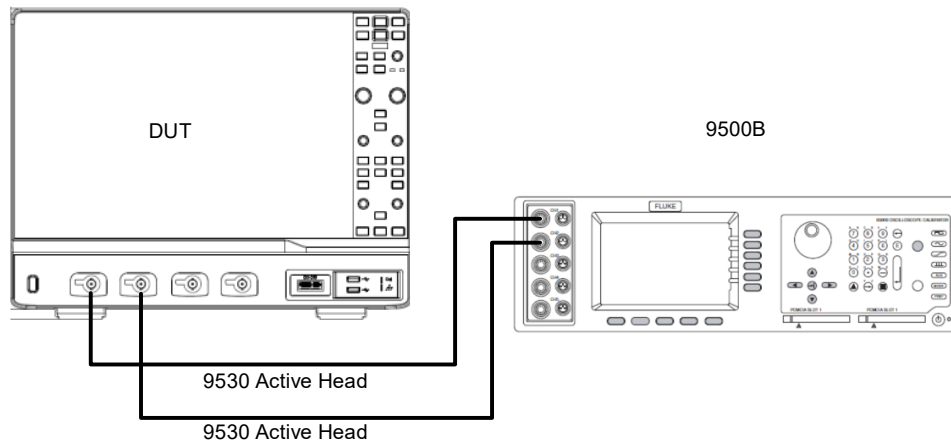

Figure 8 Test setup for Channel skew
**Note:** The 9530 active heads in Figure 8 are connected to any two channels of the 9500B, and their BNC connectors are connected to specified channels of the oscilloscope according to the test.